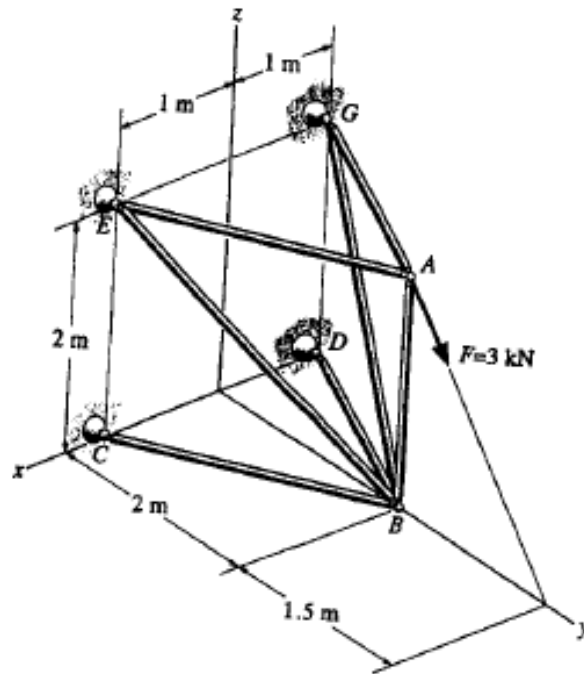

Figure P2.18
18. The space truss shown in **Figure P2.18** has four members. Determine the displacement components of node A and the force in each member. Assume $AE = 10^6 \text{ N}$.